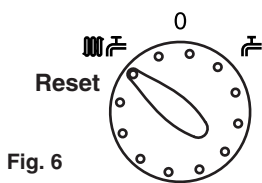

Fig. 6
4. Position (i) In this position the central heating will operate according to demand or provide domestic hot water when a tap or shower is turned on (Fig. 6). Priority is given to domestic hot water.